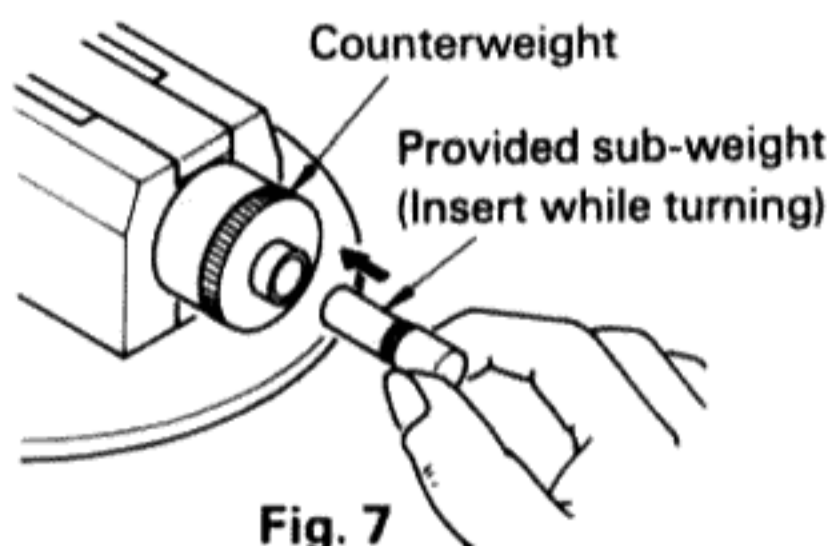

Fig. 7
**Note:** When an especially heavy cartridge is used with the S-shaped arm pipe and tracking force adjustment is impossible even when the provided sub-weight is used, use optional JVC sub-weight SW-Y66F. (See Fig. 7.)